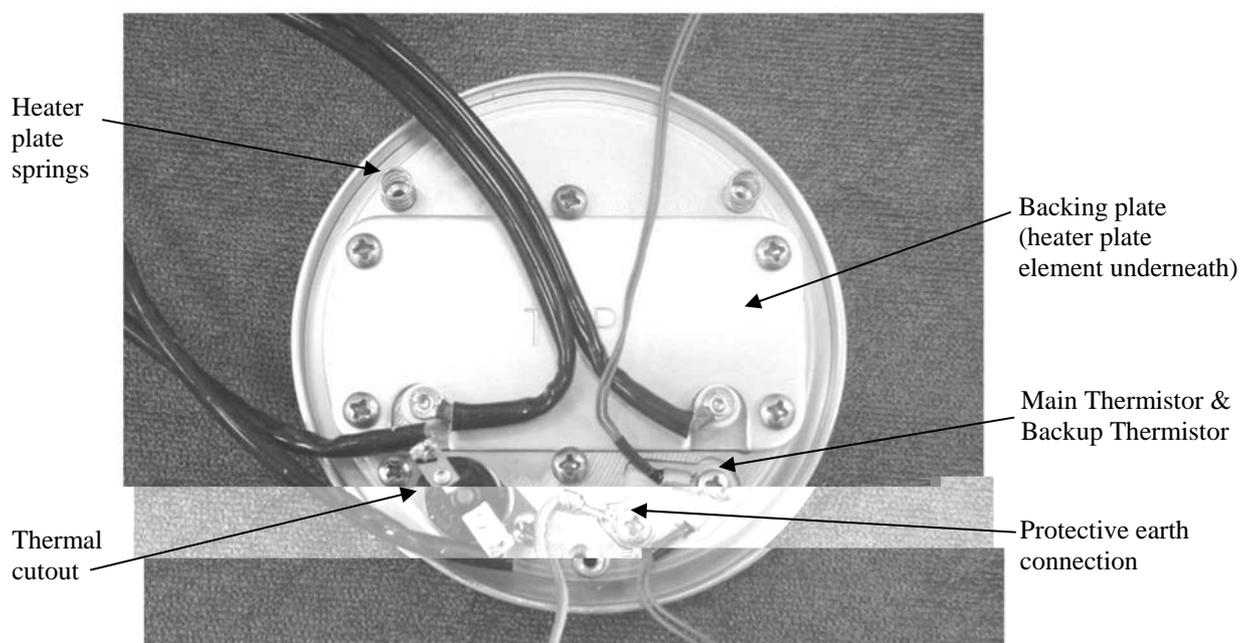

Figure 6.8: Heater plate components
4. Remove the screw holding the heater plate thermistors (refer to Figure 6.8).
4. Unsolder the two wires attached to the thermal cut-out (Figure 6.8).
4. Unscrew the six screws holding the backing plate and remove it (Figure 6.8). Refer to Figure 8.2 for the exploded diagram.